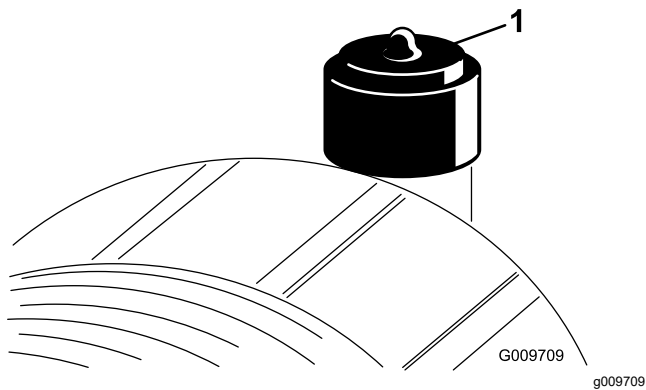

Figure 55
Service the air-cleaner element only when the restriction indicator (Figure 55) requires it. Changing the air cleaner element before it is necessary increases the chance of dirt entering the engine when you remove the element.
2. Reset the restriction indicator (Figure 55) if it shows red.